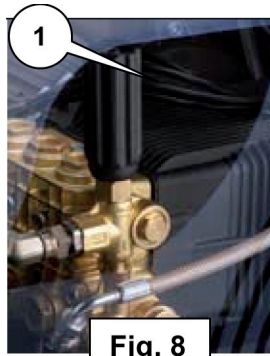
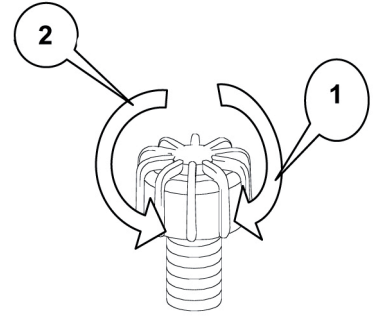

Fig. 8
Fig. 9
On this machine It is possible to regulate the operating pressure. Move to near the machine cover, in the valve access window, see fig. 8. Grip the valve knob, if provided, or use a wrench, if provided, in pos. 1, and rotating clockwise (fig. 9 pos. 1) the pressure increases; rotating the knob (fig. 9 pos. 2) anti-clockwise the pressure decreases.
Clean water filter, which is located in the tank (fig. 8). Remove the cover of the machine, remove the cover of the tank fig.8. pos. A, unscrew the plastic filter pos. B. Blow with a jet of air and then replace the lid and screw it again replace both the cover of the tank and the machine.